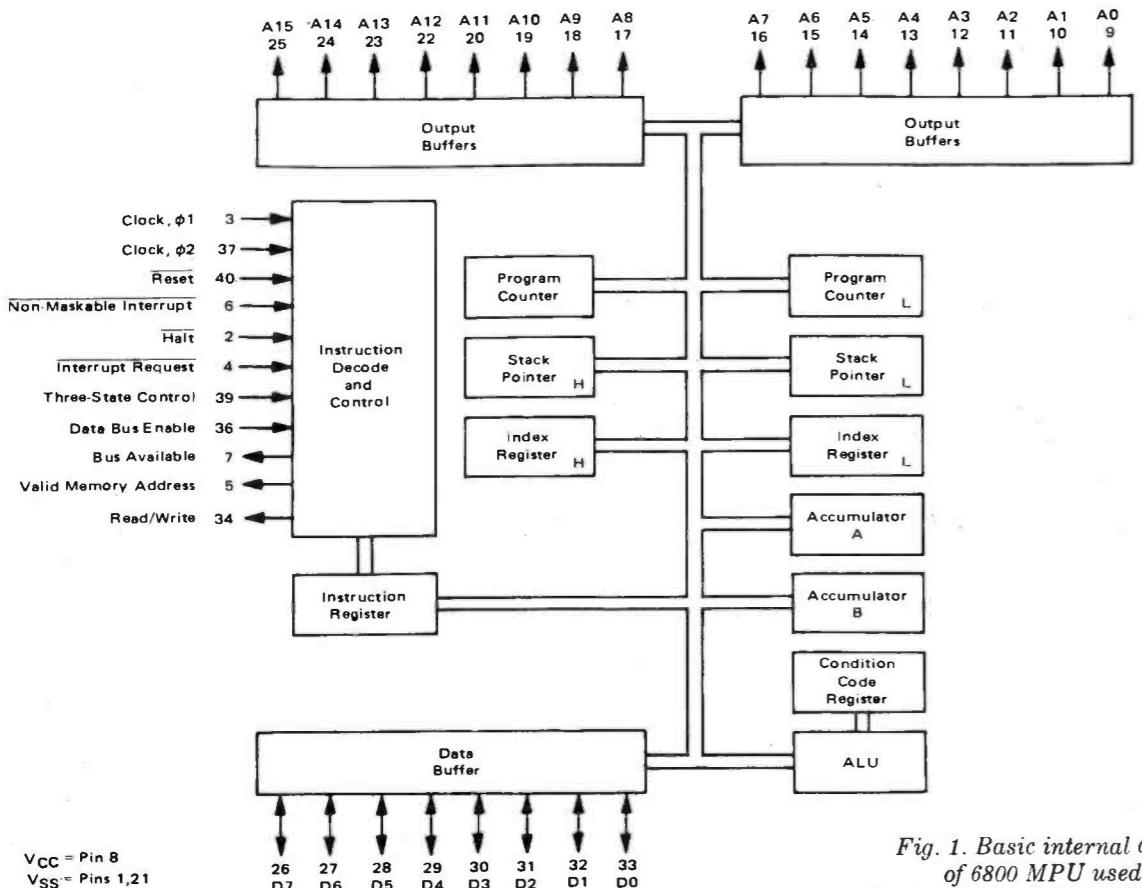

Fig. 1. Basic internal arrangement of 6800 MPU used in computer is shown here in block-diagram form.
**MPU and Clock.** As mentioned earlier, the MPU and clock are the new 6800 LSI chip. Its basic internal arrangement is shown in Fig. 1. The main elements are instruction decode, instruction register, data and address registers and buffers, 16-bit index register, 16-bit program counter, 16-bit stack pointer, two 8-bit accumulators, condition code register, and ALU (arithmetic logic unit).